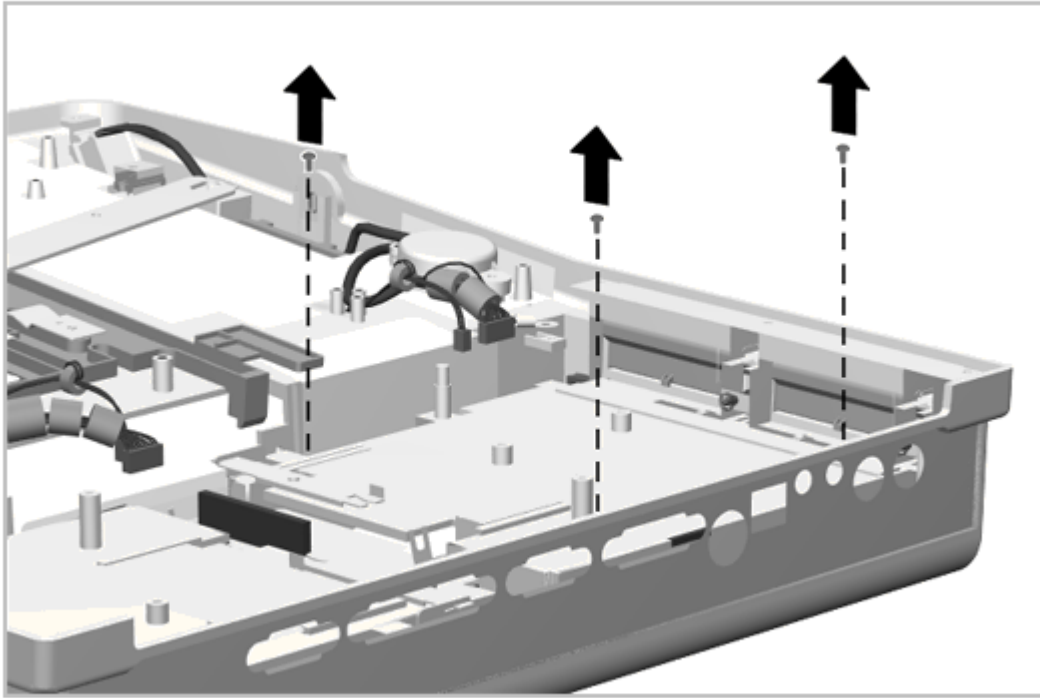

Figure 6-19. Removing the MultiBay Assembly Screws
1. Remove the three screws and lift the bay out (Figure 6-19).